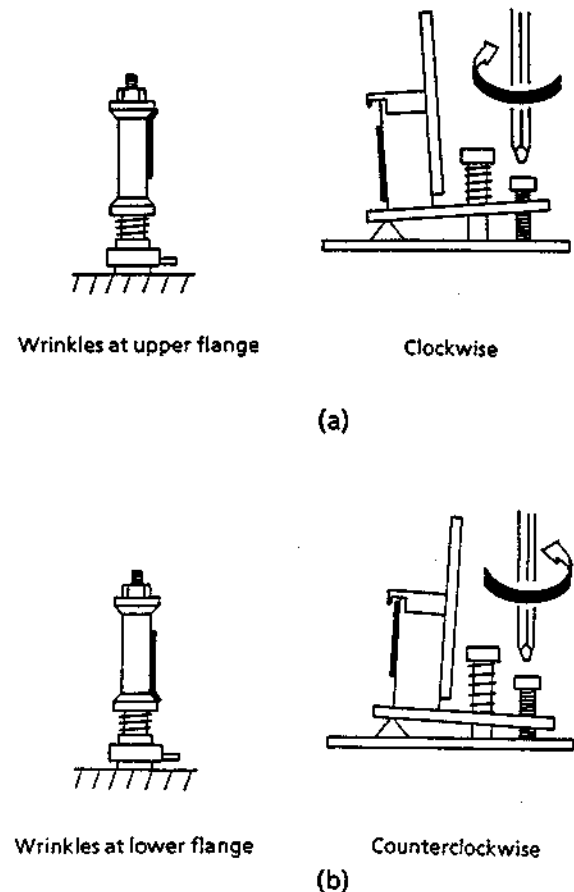

Figure 1-55.
- 1) Wrinkles at the upper flange : Turn the above adjusting screw clockwise, as shown in Fig. 1-55(a)
- 2) Wrinkles at the lower flange : Turn the above adjusting screw counterclockwise, as shown in Fig. 1-55(b)